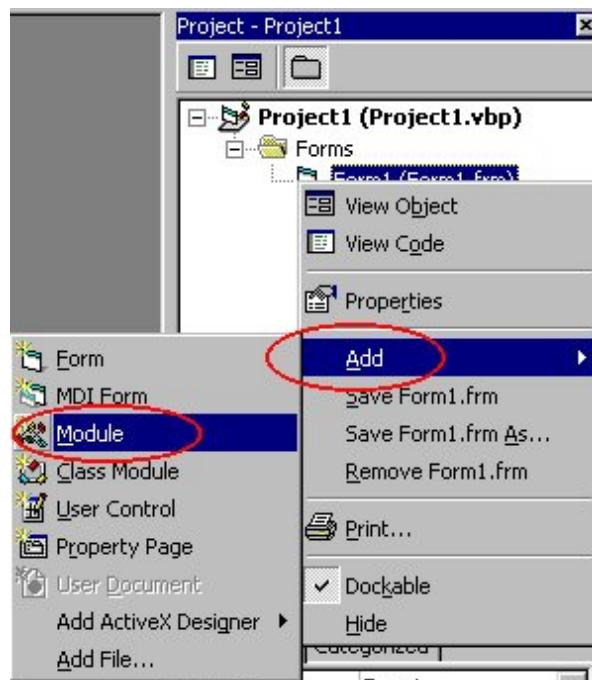

Figure 3-1-6. Adding Module
- Right mouse button click on the Project manager, and select "Add"/"Module". Refer to Figure 3-1-6.